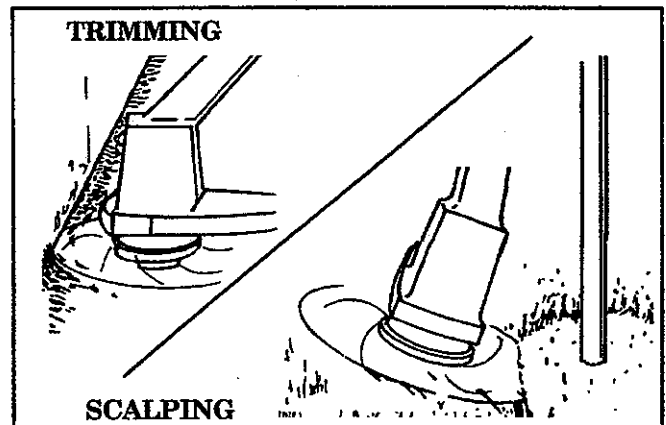

Figure 9
1. **TRIMMING** - Figure 9. Hold the bottom of the trimmer head about 3 inches above the ground and at an angle. Allow only the tip of the line to make contact. Do not force the trimmer line into the work area.
2. **SCALPING** - Figure 9. The scalping technique removes unwanted vegetation. Hold bottom of the trimmer head about 3 inches above the ground and at an angle. Allow the tip of the line to strike the ground around trees, posts, monuments, etc. *This technique increases line wear.*